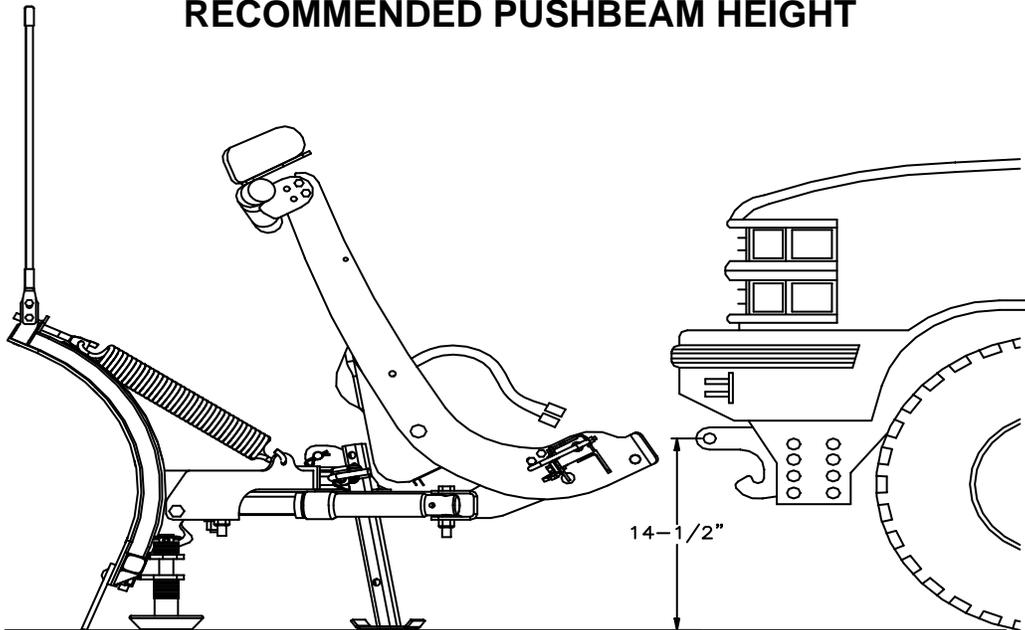

Figure 4
8. Bolt PUSH BEAM (62) to PUSH BEAM SUPPORT PLATES (62A & 62B) using ½"-13 x 1-½" GR5 Hex Head Bolts (A) in front holes, and ½"-13 x 2" GR5 Hex Head Bolts (E) in rear holes and ½"-13 Nylon Lock Nuts (D). Fasteners should only be finger tight. NOTE: The proper height adjustment for the PUSH BEAM is 15-½" from the ground to the center of PUSH BEAM (62) pin-receiving hole (See Figure 4). Bumper trimming can be reduced or eliminated by lowering PUSH BEAM, however, lowering PUSH BEAM more than 1" may affect plow performance.